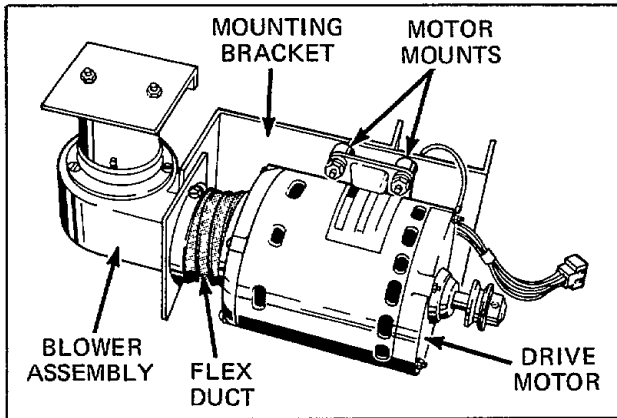

Figure 32
- e. Loosen clamp holding flex duct to motor, *Figure 32*.
- f. Remove nut holding ground wire to motor and four nuts, washers and lockwashers holding drive motor to rubber motor mounts, *Figure 32*.
#### 34. BLOWER ASSEMBLY (Refer to Figure 32)